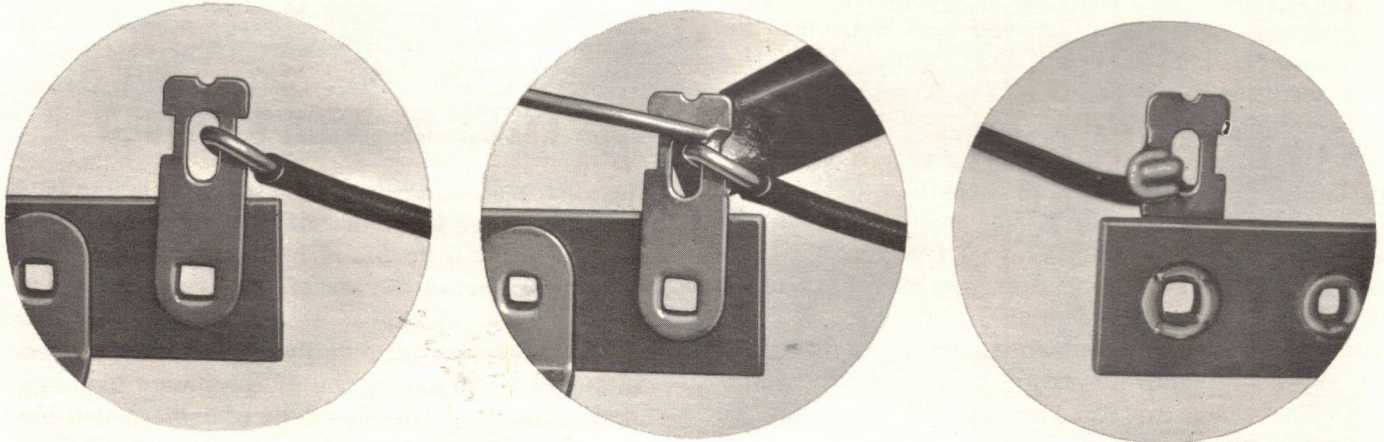

Figure 2
3. The leads should be mechanically secure before soldering. This does not mean wrapping leads around the contacts several times. It means a single turn around the contact which is then pinched tightly with the long nose pliers. If the wire is too large for bending, position the wire so that a good solder connection can still be made. (See Figure 2.)